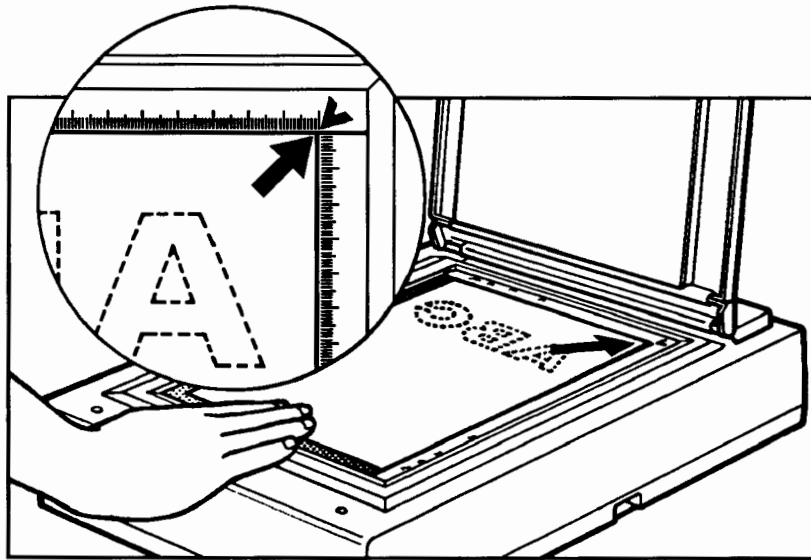

Figure 8. Placing Documents on the Copyboard Glass
3. Place the document face down on the copyboard glass. Make sure the top right corner of the document rests against document set mark as shown in figure 8.